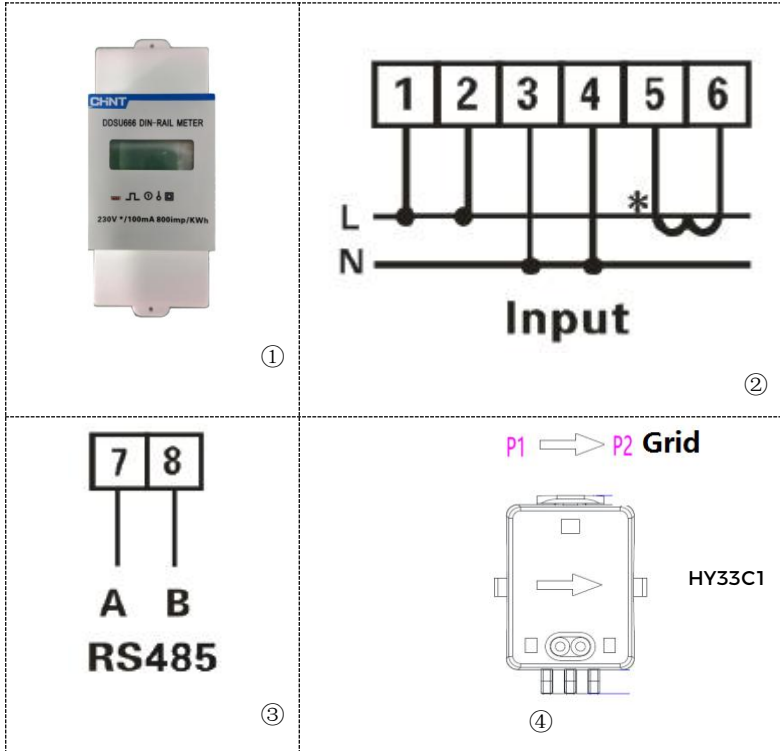

Figure 4.4.5-6 Meter
The connection mode is shown in Figure 4.4.5-6②. The 1/2 and 3/4 on the electricity meter are connected to voltage signals L and N respectively. And the current needs to be connected through the current transformer, 6, 7 correspond to the current transformer.
NOTE: The direction of the current transformer is shown in Figure 4.4.5-6④.